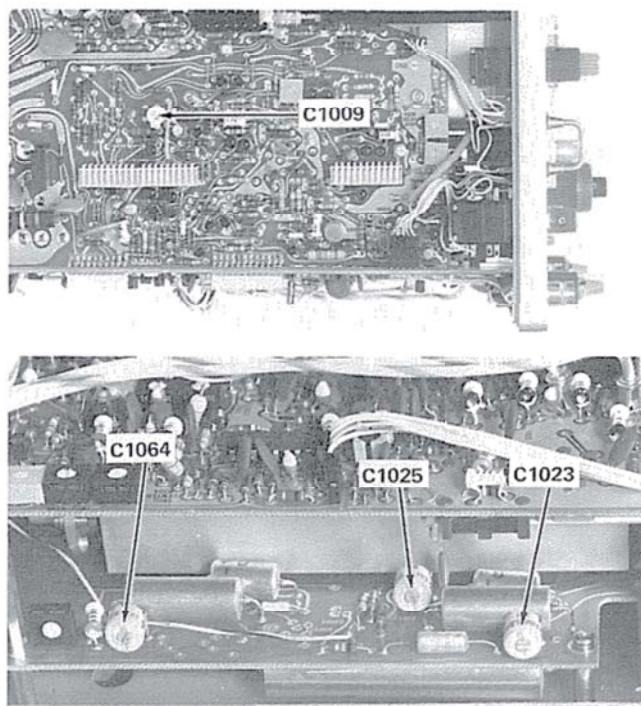

Fig. 5-25. Location of A and B Sweep timing adjustments.
d. ADJUST—C1064 (see Fig. 5-25) with a low-capacitance screwdriver, for 1 time marker/division.
g. ADJUST—C1023 (see Fig. 5-25) with a low-capacitance screwdriver, for 1 time marker/division.